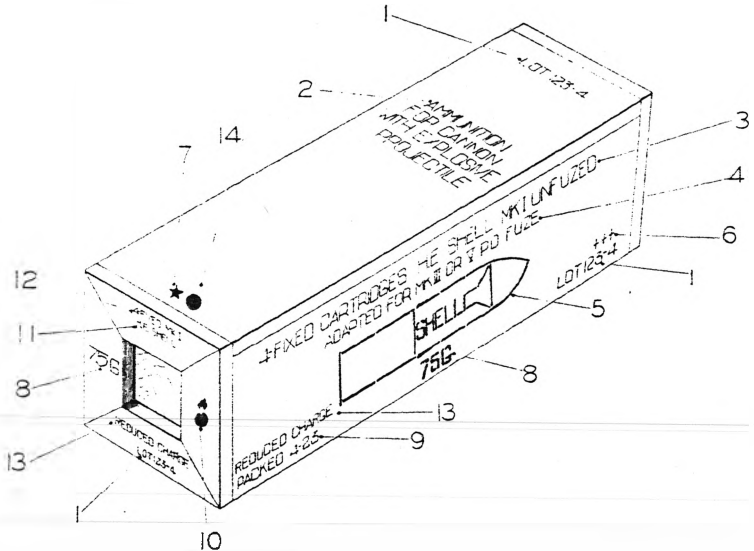

FIG. 16.—Packing box for 75-mm. high-explosive fixed ammunition for field gun
(3) Each packing box contains a completely filled-in ammunition data card which gives complete information regarding the lot number, manufacturer, date of manufacture, date of packing, etc., of the round, together with similar information about each of the components of the round.
*b. Marking.*—(1) The marking which appears on the packing box for the Mk. I and Mk. IV high-explosive shell is shown in Figures 16 and 17.